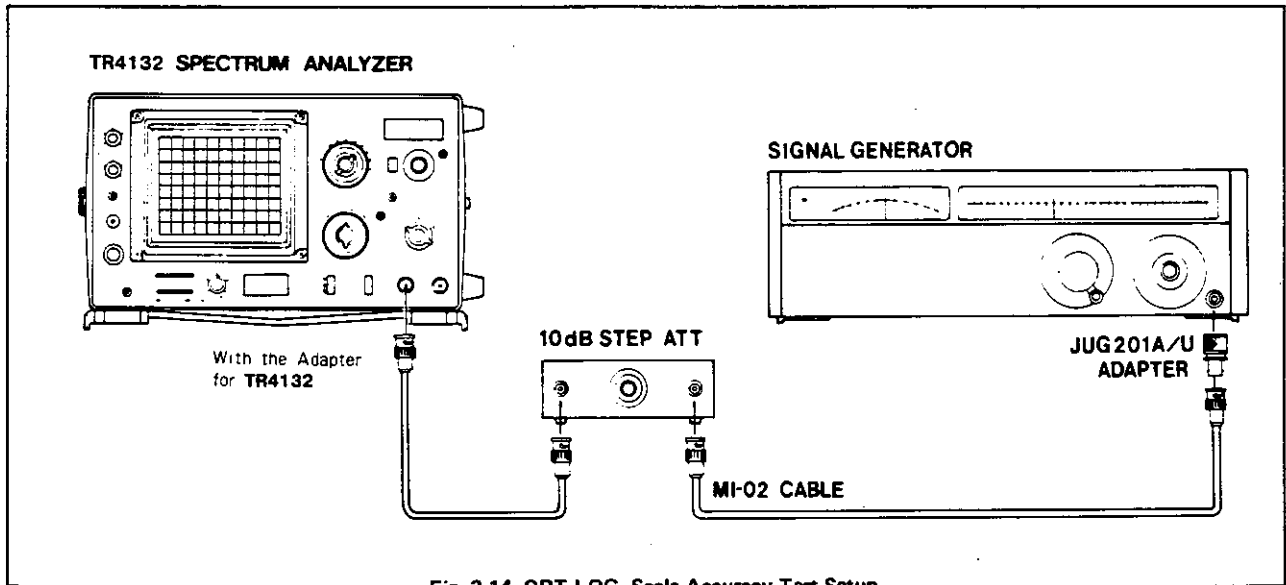

Fig. 3-14 CRT LOG. Scale Accuracy Test Setup
- (1) Reset specific controls from the initial settings (Para 3-3-1-(3)) as follows:
- (2) Set the Signal Generator output to 100MHz/95dB $\mu$  and the Attenuator to 0dB respectively and connect to **INPUT** of the instrument as shown in [Fig. 3-14].